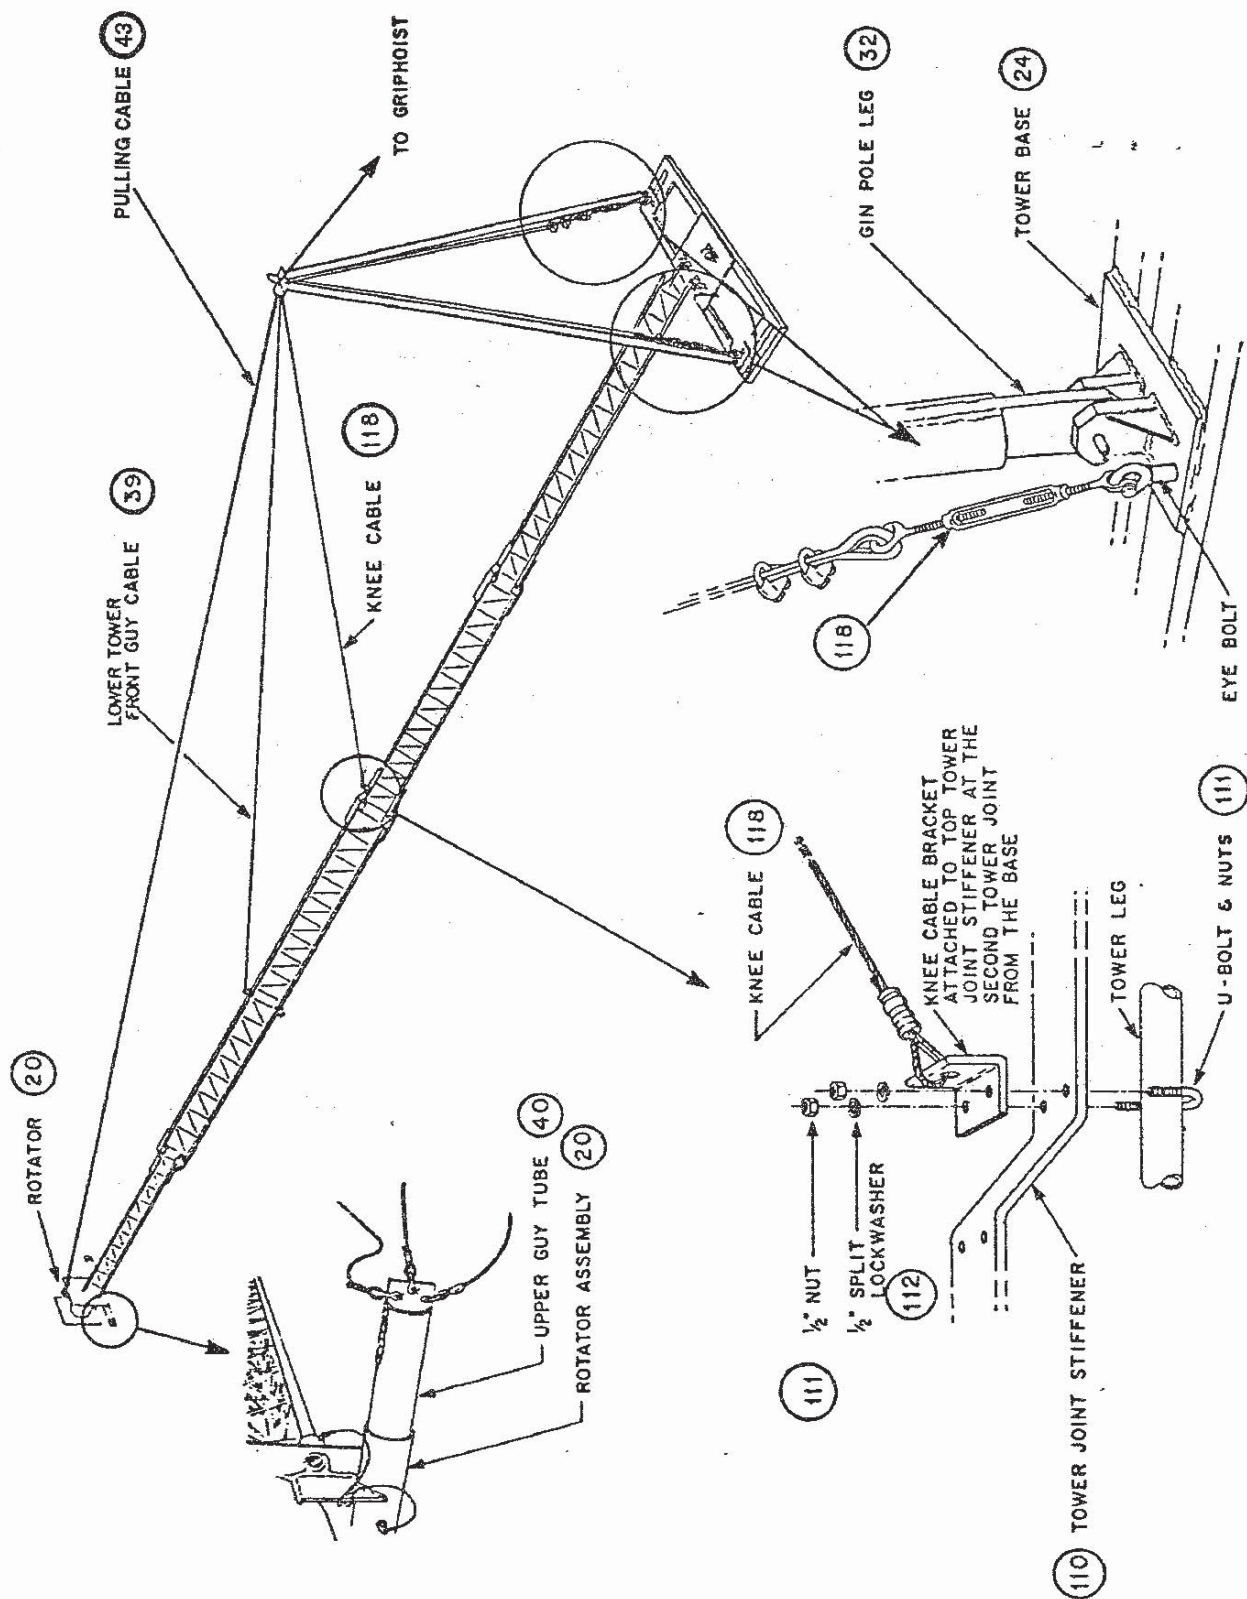
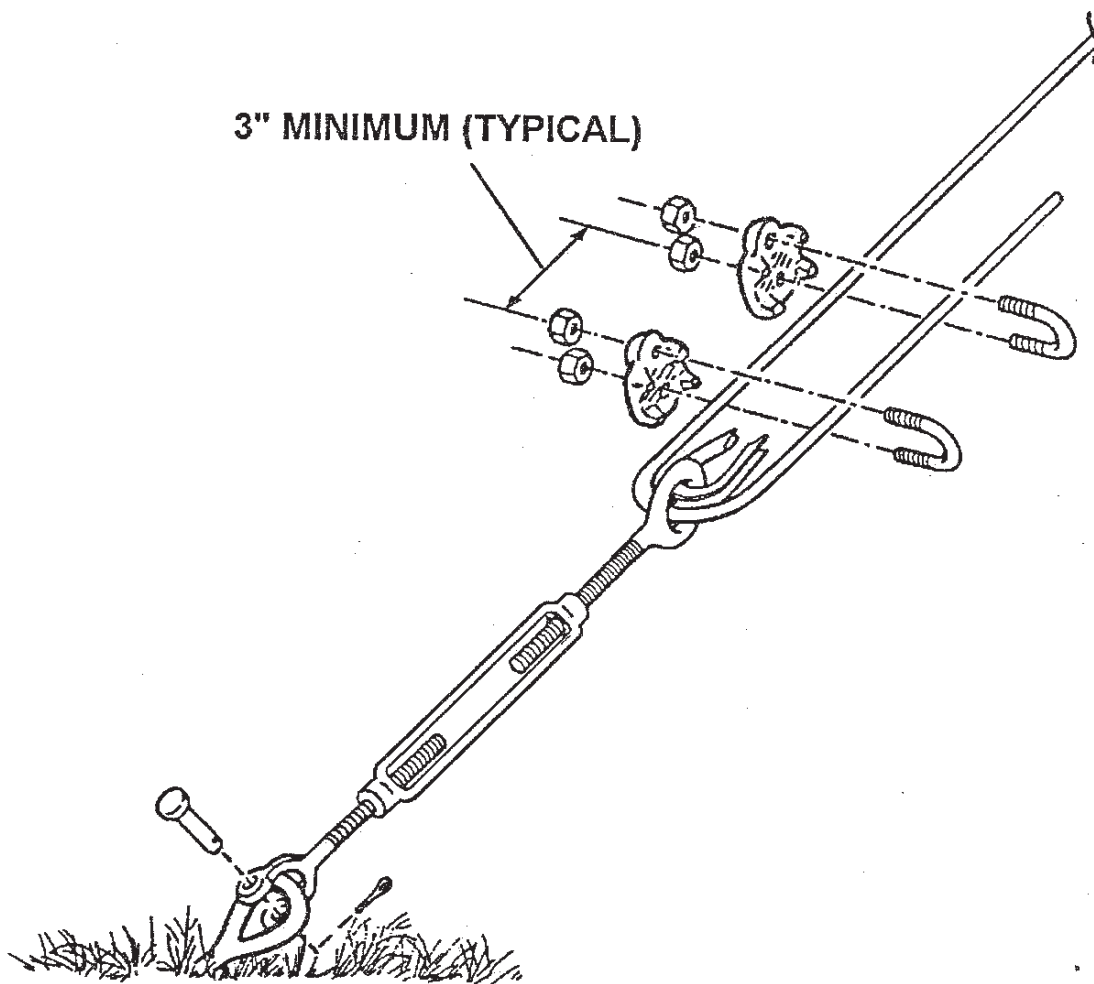

Figure 2-13
Figure 2-17
- g. As the tower lays on the ground, install the knee cable bracket into the upper mast leg. Position it at the second tower joint from the base plate. Fasten the bracket under the U-bolts. See Figure 2-13.
- j. As the tower lays on the ground, install the knee cable bracket (with cable) on the upper mast leg of the second joint from the base plate. Fasten the bracket with the U-bolt exactly as shown in Figure 2-13.
- i. The turnbuckles on the knee cables attach to the eyebolts on the base plate (Figure 2-13). They provide the adjustment needed to equalize tension between the knee cables and the pulling cable. Refer to Figure 2-17 for attaching cables to turnbuckles.